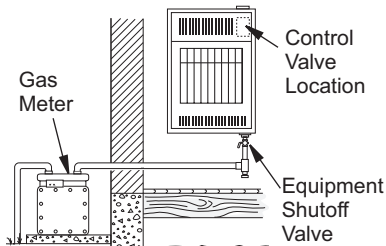
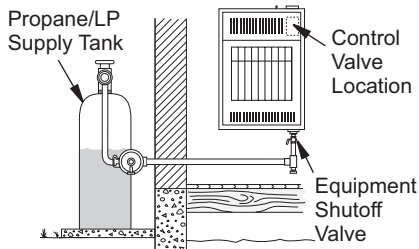

Figure 15 - Checking Gas Joints for Natural Gas
Figure 16 - Checking Gas Joints for Propane/LP Gas
Install sediment trap in supply line as shown in Figure 15. Locate sediment trap where it is within reach for cleaning. Locate sediment trap where trapped matter is not likely to freeze. A sediment trap traps moisture and contaminants. This keeps them from going into heater controls. If sediment trap is not installed or is installed wrong, heater may not run properly.
3. Check all joints from gas meter for natural gas (see Figure 15) or propane/LP supply tank for propane/lp gas, to equipment shutoff valve (see Figure 16). Apply a noncorrosive leak detection fluid to all joints. Bubbles forming show a leak.
4. Check all joints from equipment shutoff valve to thermostat gas valve (see Figure 15 or 16). Apply a noncorrosive leak detection fluid to all joints. Bubbles forming show a leak.